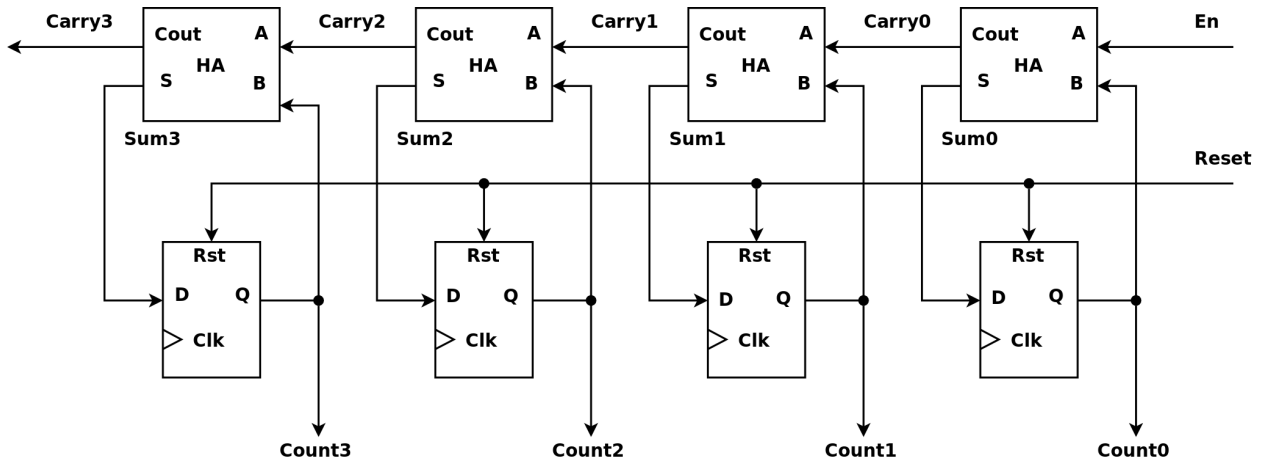

Figure 1: 4-bit Binary Up-Counter
With the components you have been introduced to at this point, you can construct a wide variety of useful synchronous circuits. One particularly important circuit we will discuss in this lab is the binary counter. A simple binary up-counter constructed from half-adders and flip-flops is depicted in Figure 1. It is interesting to note that the half-adders are chained together to create a ripple-carry adder that increments the binary value stored in the flip-flops by 1 on every rising-edge of the clock if the enable ( $En$ ) is high. If  $En$  is low, the binary value stored in the counter does not change. Notice the *Reset* signal, which connects to each flip-flop in Figure 1. We have not discussed *Reset* signals yet; however, the idea is quite simple. For certain synchronous circuits, the beginning state is important. *Reset* provides a mechanism to initialize the state of a synchronous circuit. When the *Reset* signal is asserted, the flip-flops will *reset* to a known state. Typically, the *reset* state will be '0'; however, it is not uncommon to *reset* a flip-flop to '1'. Just like the clock signal, the *Reset* signal is a global net distributed to all synchronous components.
1. Supposed we want to build a 32-bit counter using the circuit in Figure 1. If the gates used to construct the half-adders in the circuit are assumed to have a 2ns delay each and the flip-flop overhead is assumed to be negligible, what is the maximum clock frequency we could use to drive our counter? Given the clock frequency you just calculated, how long would it take this counter to roll over (i.e. return to 0). Please show your calculations.
1. Design the up-counter illustrated in Figure 1.
- (b) Create a source file called “up\_counter.v” and construct the circuit found in Figure 1 using Verilog. The code snippet below should help you get started.